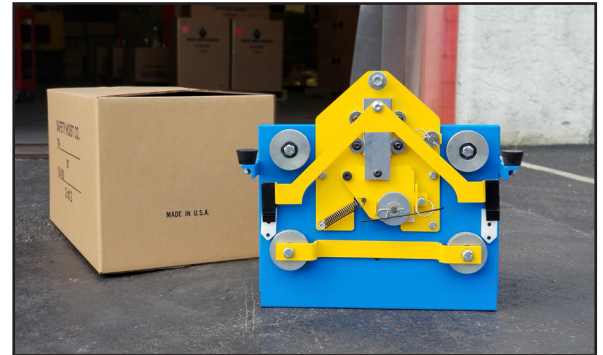

FIGURE 1
1.) Remove all parts from the box and inspect for any damage - See Figure 1